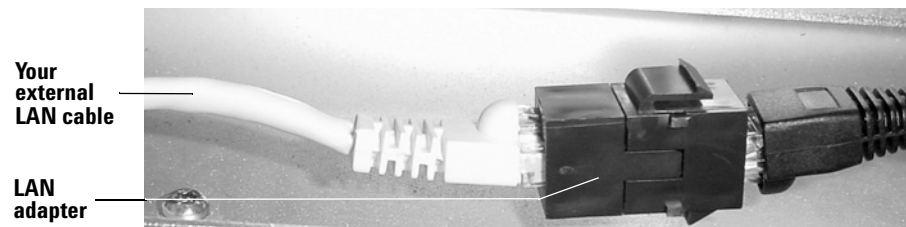

Figure 9 Your LAN cable inserted into the 'female-female' LAN adapter
- 1 Fully insert your external LAN cable into the 'female-female' LAN adapter (detail, Figure 9).